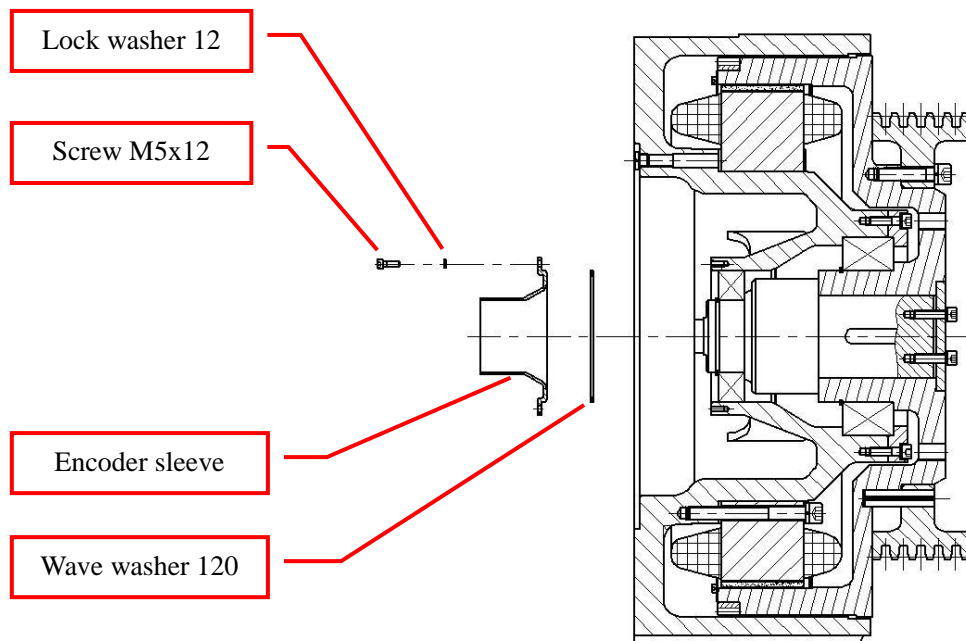

Figure 57: Remove Encoder sleeve and Wave washer
4. Remove the encoder sleeve and wave washer 120. See Figure 57.